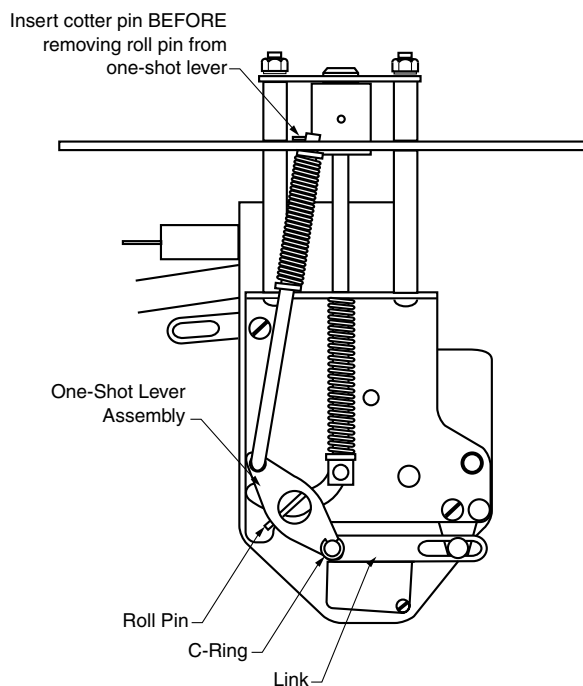

Figure 14.
8. Drive out the roll pin in the one-shot lever assembly. This must be done through the source-side bushing hole of the head casting. See Figure 14.